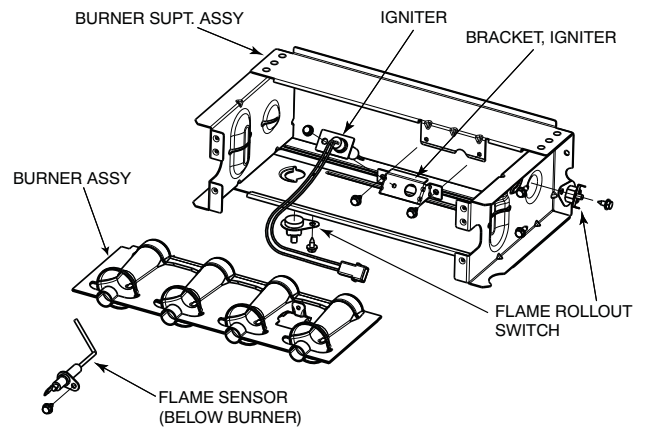

Fig. 3 – Burner Assembly
6. Remove the flame sensor from the burner assembly. See Fig. 3.